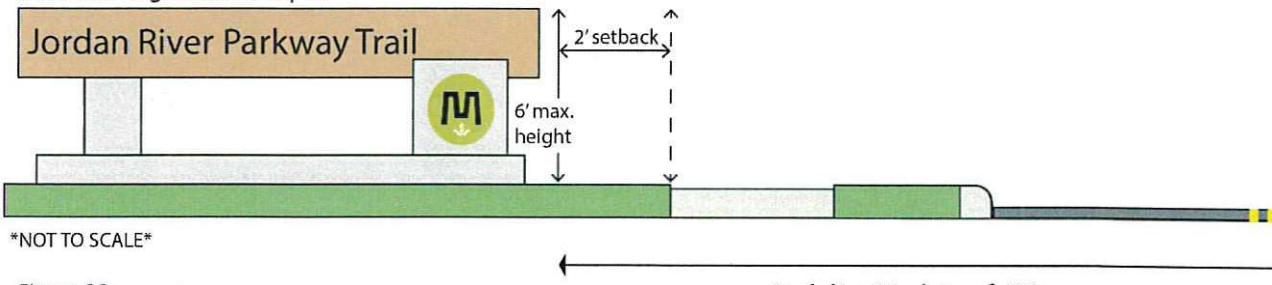

Figure 20
1. Monument and Park or Trail Signs adjacent to roadway frontage or parking areas intended to access parks, trails and open space (*See Figure 20*).